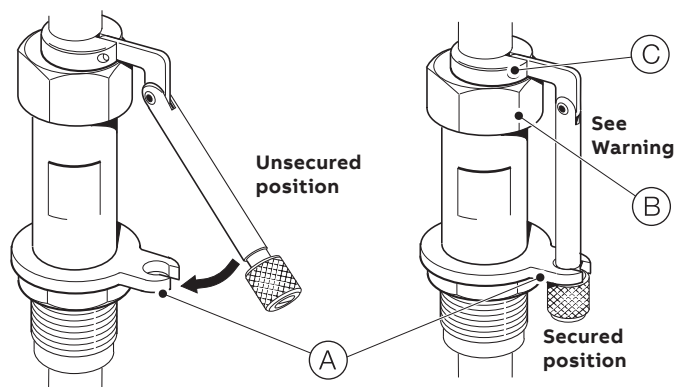

Figure 20 Safety mechanism
- The insertion sensor is provided with a safety mechanism that must be attached to its securing collar (A) as shown in Figure 20 (**Secured position**). This prevents rapid outward movement by the insertion sensor if nut (B) is released.
- To ensure maximum safety, the positioning collar (C) **MUST** be tightened in place using a 4 mm hexagon key.